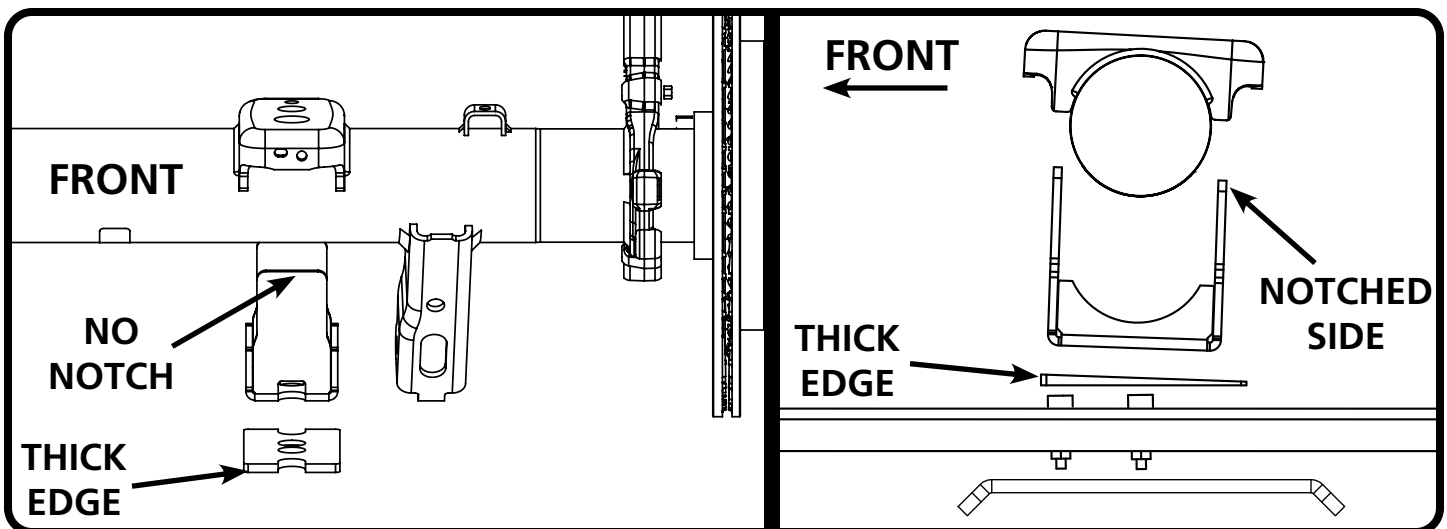

Figure 18a
25. Position the wedge shim & flip bracket on the locating pins using Figures 18a & 18b below as a guide. The thick end of the wedge will go to the front of the truck. The notch in the flip bracket will go to the **rear**.